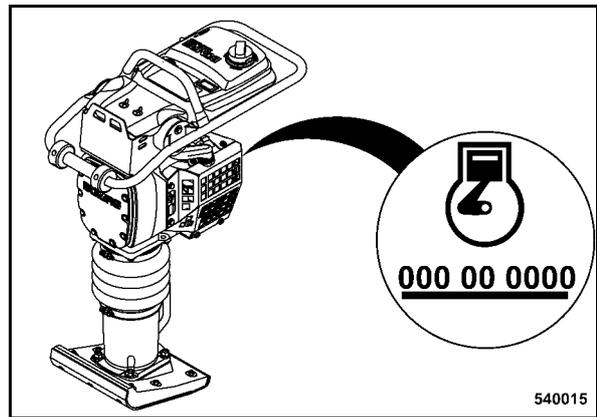

Fig. 3
- Engine type (Fig. 3)
- Engine number (Fig. 3)